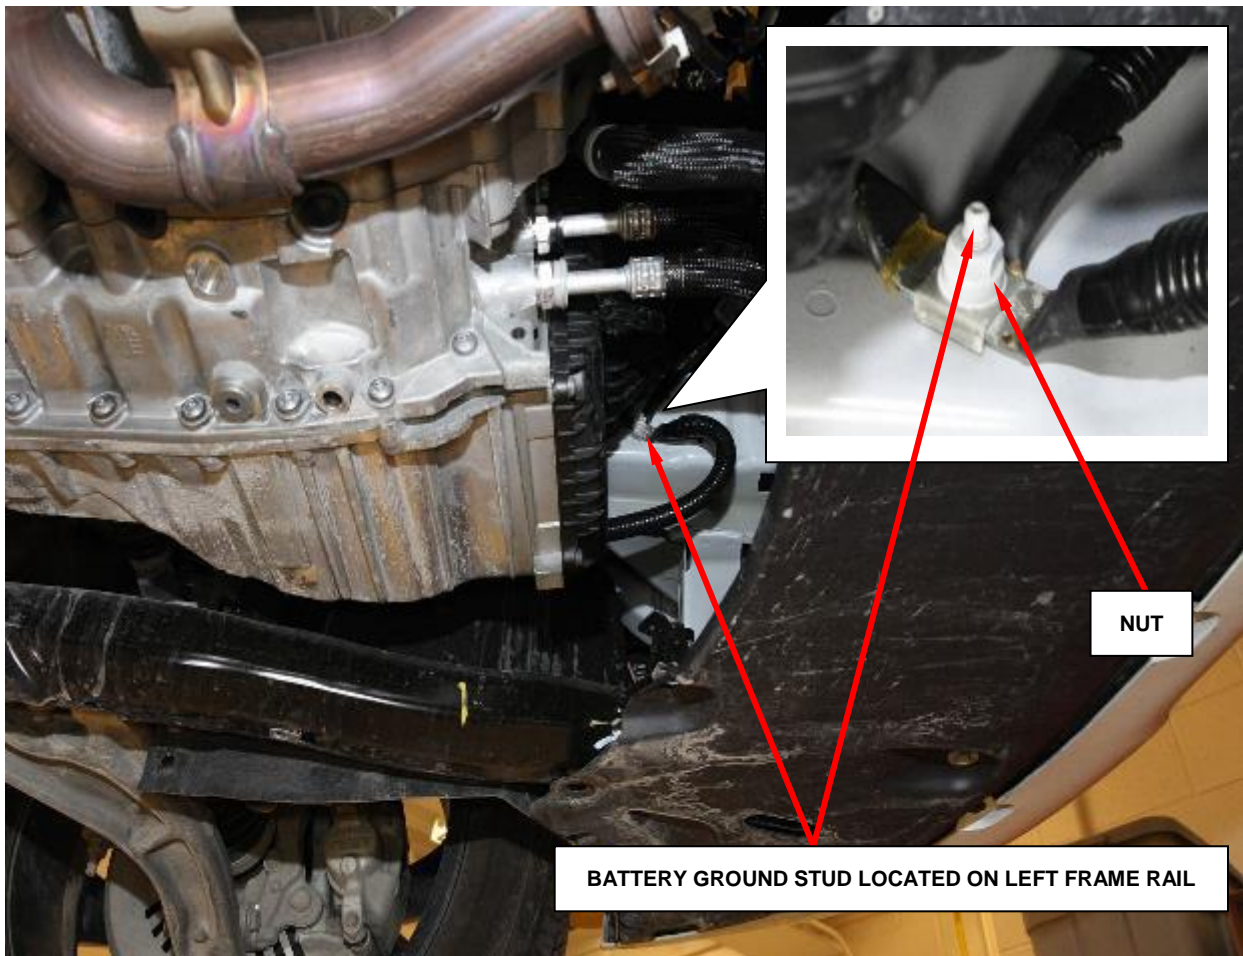

Figure 4 - Battery Ground Stud Location
9. Locate the battery ground stud located on the left frame rail toward the front of the vehicle (Figure 4).
10. Remove the ground nut from the ground stud (Figure 4).